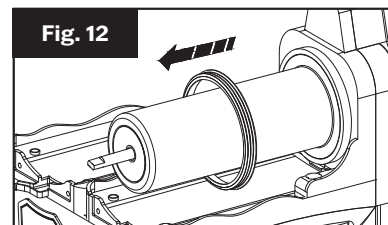

Fig. 12
5. Gently pull on the bowl gasket to remove. (Fig. 12)